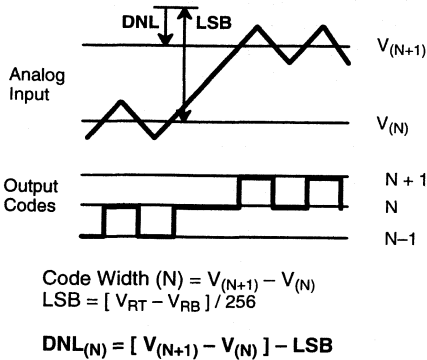
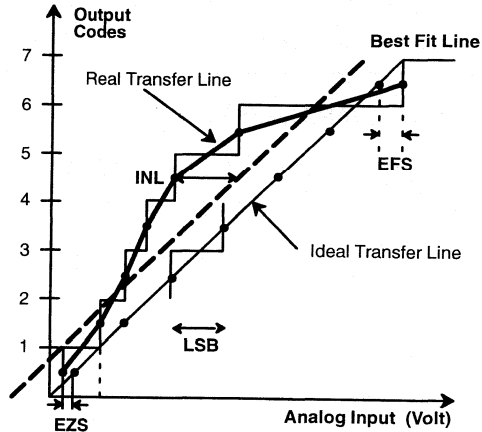

Figure 2. DNL Measurement
Figure 3. INL Error Calculation
- 1 Tester measures code transitions by dithering the voltage of the analog input (V_{IN}). The difference between the measured and the ideal code width ($V_{REF}/256$) is the DNL error (Figure 2). The INL error is the maximum distance (in LSBs) from the best fit line to any transition voltage (Figure 3). Accuracy is a function of the sampling rate (FS).